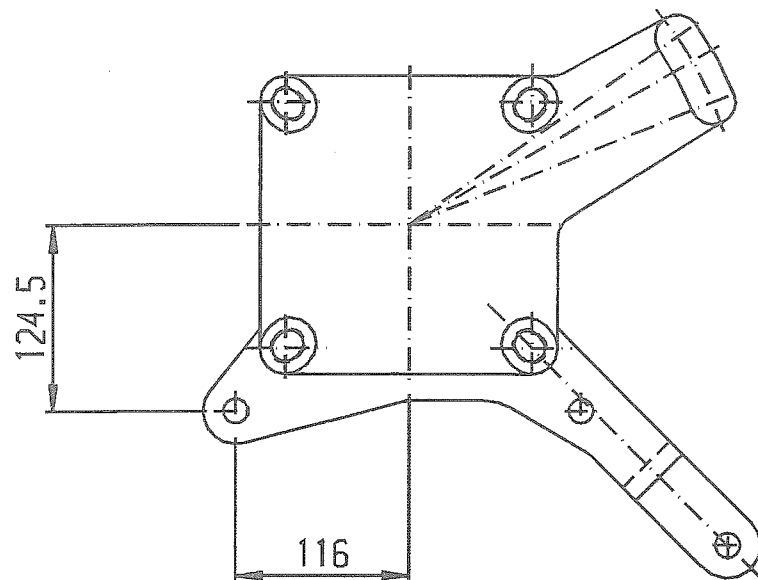
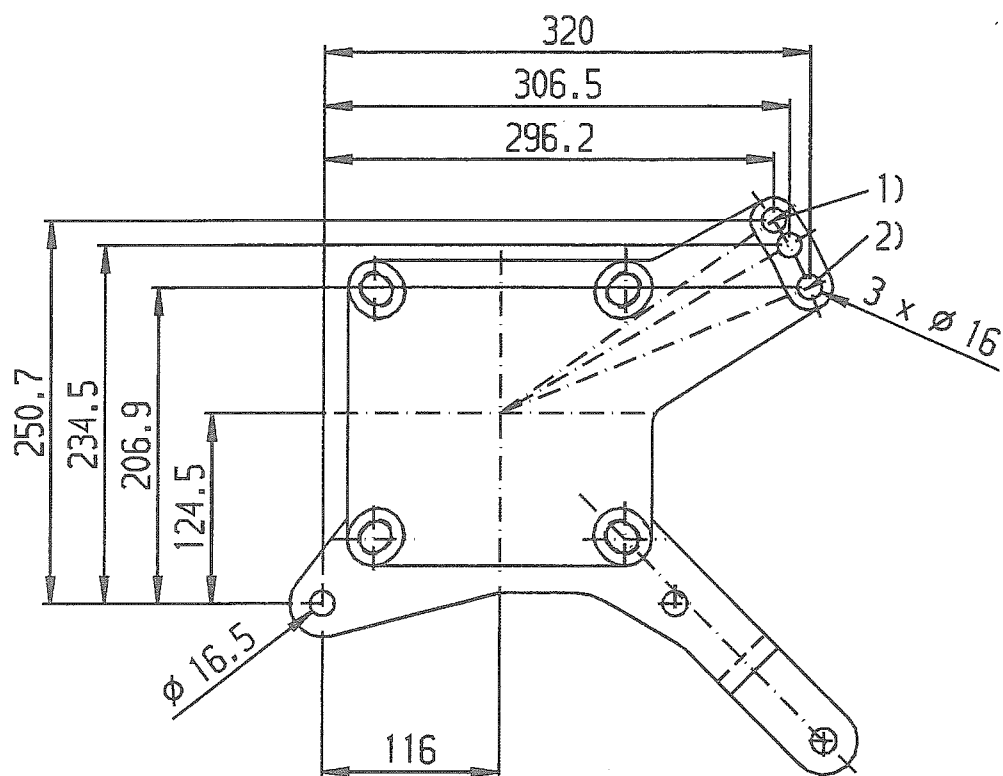

Figure 2: Position of actuating lever
Figure 3: Dimensions for fixture
- Figure 2 Position of actuating lever
- Figure 3 Dimensions for fixture
2. Re-position the actuating lever as shown in Figure 2.
3. Fabricate a fixture as shown in Figure 3 for positioning the actuating lever with respect to the bracket of the rotary unit.
- Then fasten the arms of the current path (5) to the support porcelains using M12x90 bolts (38) and tighten the bolts until they are finger-tight. Fasten arm I of the current path (with contact tip) above the rotary unit using one stop bolt (2.2) and fasten arm II of the current path (with contact fingers) above the rotary unit using 2 stop bolts.
- Close the disconnecter and align the arms of the current path so that they are in alignment both horizontally and longitudinally. Check the run-in depth, namely the distance covered by the contact tip before contact with the contact fingers (see Figure 2 in Operating Instructions 2136), and adjust this dimension by moving the two arms of the current path. Tighten the bolts.